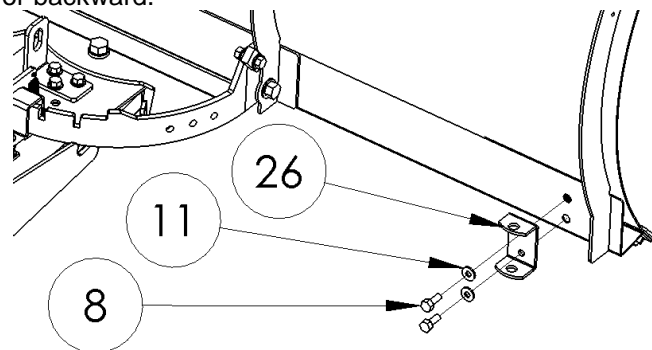

Figure 12
- 10) Install your Skid Feet Brackets (#26) using the 3/8" Bolts (#8) and 3/8" Washers (#11) included in your kit. (**Figure 12**) Your MotoAlliance Professional Series Plow System has been designed to allow the skid feet to angle if necessary. Additional 3/8" washers (Not Included) can be placed behind the Skid Feet Bracket to shim the bracket forward or backward.